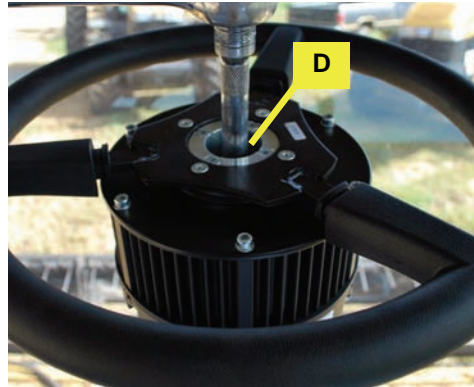

Figure 3b: Securing steering wheel assembly at correct torque setting
- b. Using special nut **D** (not visible), tighten the steering wheel assembly to the manufacturer's recommended torque (Figure 3b).